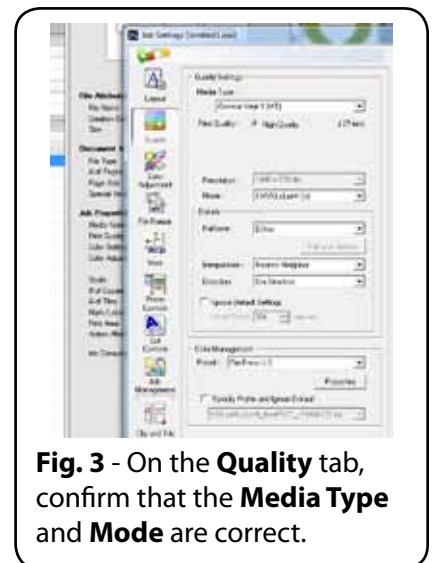

Fig. 3 - On the **Quality** tab, confirm that the **Media Type** and **Mode** are correct.
4. Click the **Quality** tab (Fig. 3).